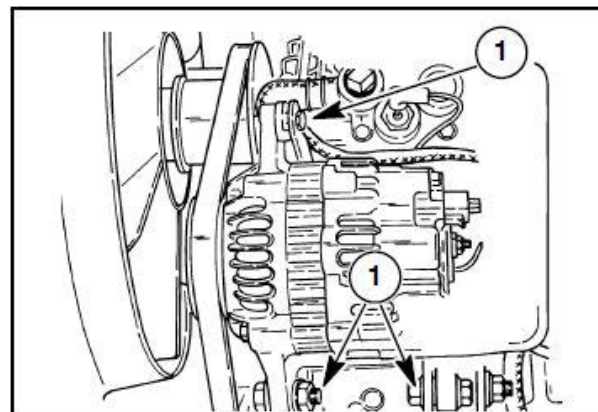

Figure 3-28
1. Loosen the alternator mounting bolts (1) in Figure 3-28.